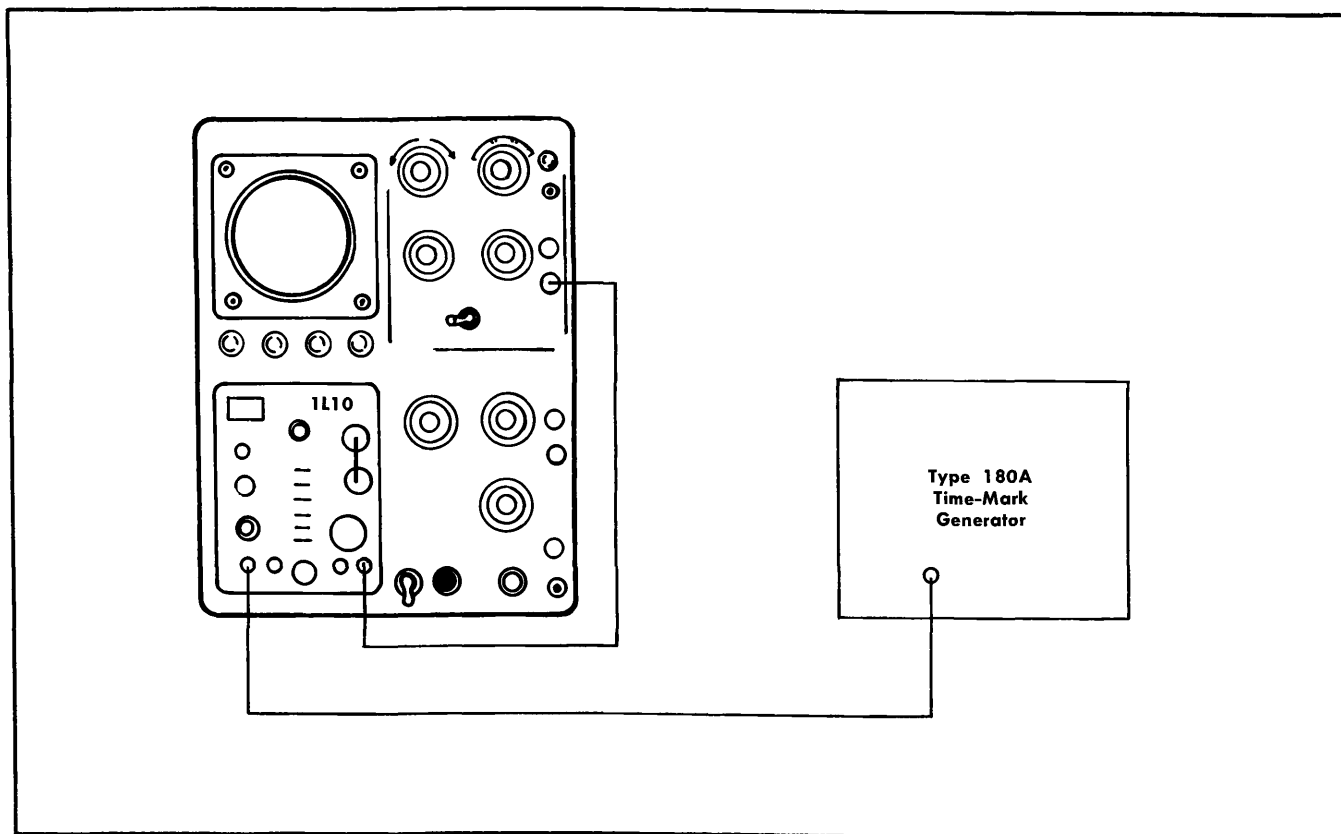

Fig. 4-19. Equipment setup for oscillator tracking adjustment.
a. Set up the equipment as shown in Fig. 4-19.